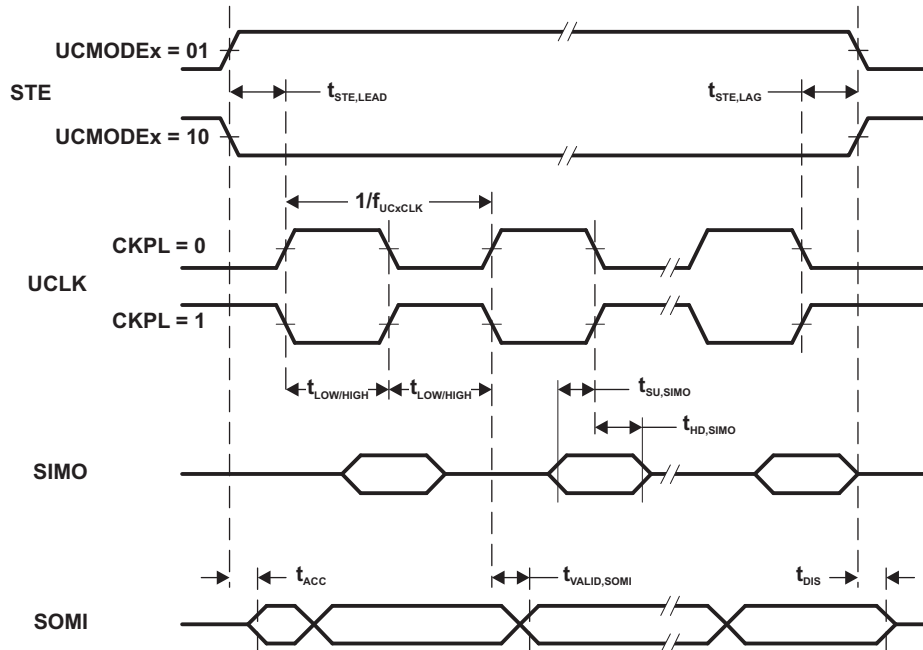
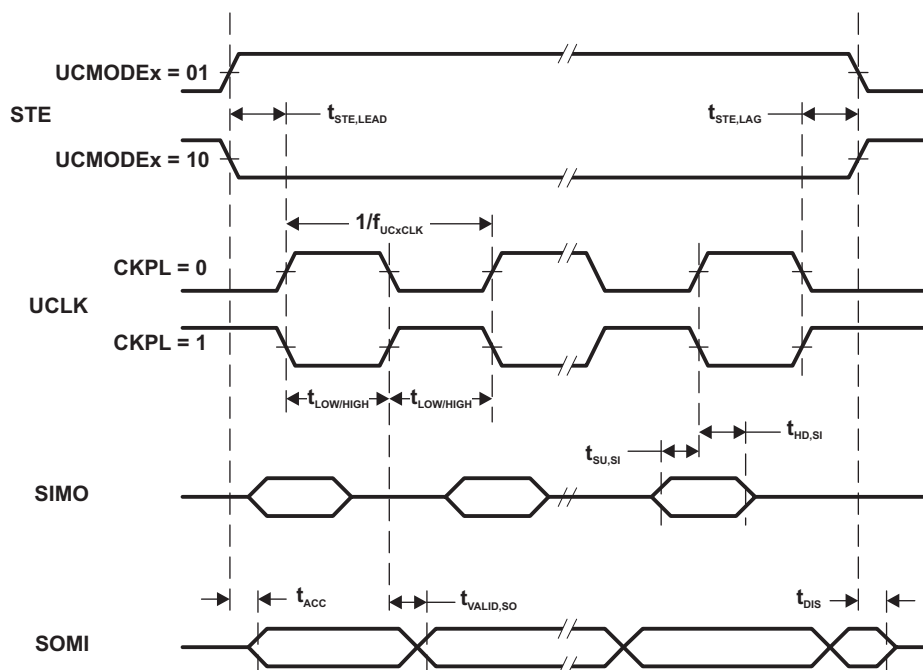

Figure 15. SPI Slave Mode, CKPH = 0
Figure 16. SPI Slave Mode, CKPH = 1
- (2) Specifies the time to drive the next valid data to the SIMO output after the output changing UCLK clock edge. See the timing diagrams in Figure 15 and Figure 16.
- (3) Specifies how long data on the SIMO output is valid after the output changing UCLK clock edge. Negative values indicate that the data on the SIMO output can become invalid before the output changing clock edge observed on UCLK. See the timing diagrams in Figure 15 and Figure 16.
(2) Specifies the time to drive the next valid data to the SOMI output after the output changing UCLK clock edge. Refer to the timing diagrams in Figure 15 and Figure 16.
(3) Specifies how long data on the SOMI output is valid after the output changing UCLK clock edge. Refer to the timing diagrams in Figure 15 and Figure 16.